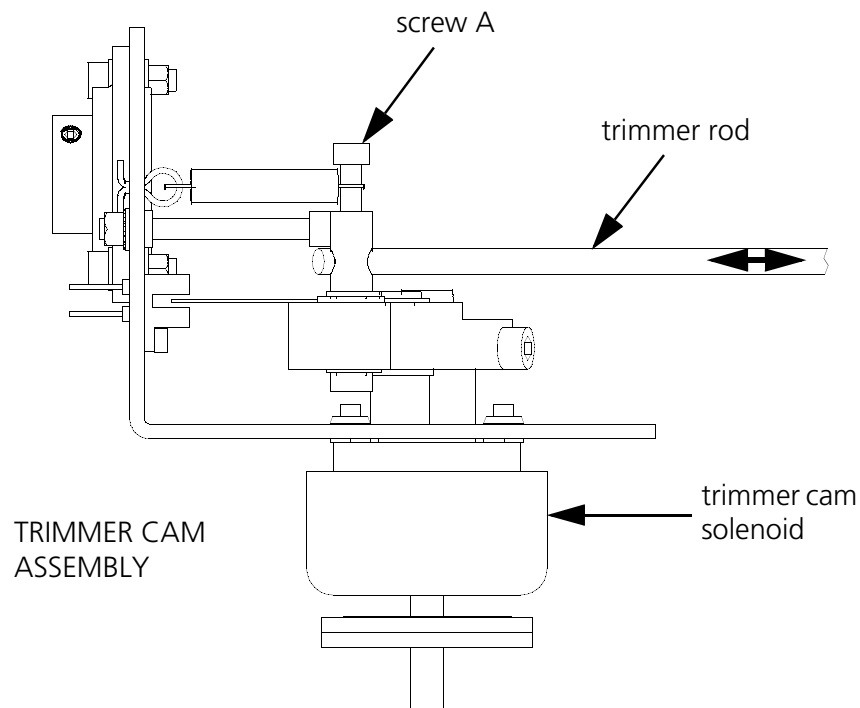

Figure 4-22
Each movable knife is connected to the camming mechanism via a series of levers, rods and pivots. During a trim operation the cam follower is engaged and this in turn activates the trimmer reciprocator arm which provides back and forth movement to the trimmer rod (refer to Figure 4-22). The trimmer rod is connected to the trimmer drive linkage that transmits movement to the connecting link, causing the movable knife to "cut."
7. Refer to Figure 4-22 and loosen the screw at point A.